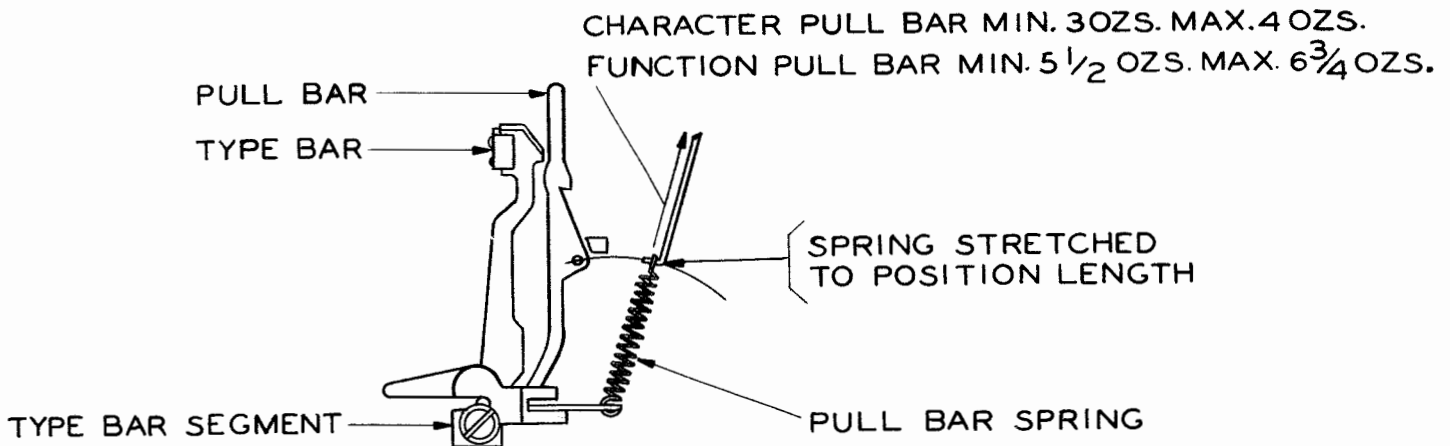

Figure 8
2.16 Pullbar Springs: The tension of character pullbar springs shall be minimum 3 ounces, maximum 4 ounces and the tension of function pullbar springs shall be minimum 5-1/2 ounces, maximum 6-3/4 ounces. (See Figure 8.)